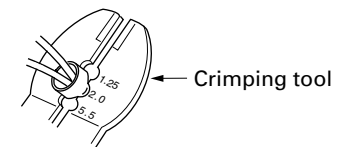

Fig.6
(4) As shown in Fig.6, use the crimping tool to crimp the metal sleeve at the center position. Be sure to crimp fully to the complete closure of the tool.